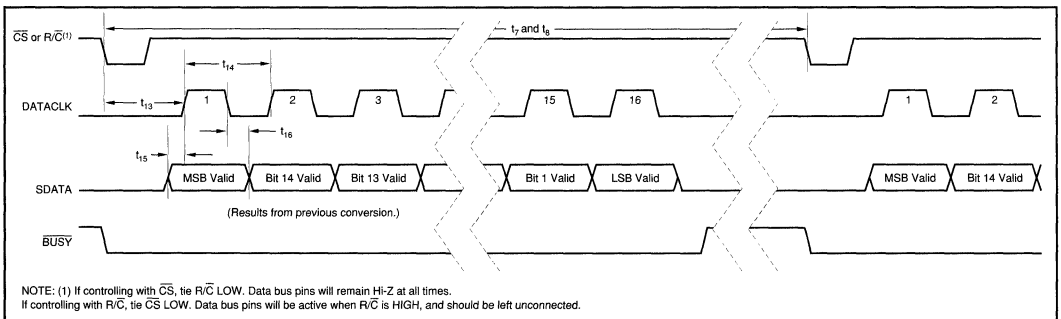

FIGURE 4. Serial Data Timing Using Internal Data Clock (TAG tied LOW).
NOTE: (1) See Figures 4, 5, and 6 for constraints on data valid from conversion "n-1".
To use the internal data clock, tie $\text{EXT}/\overline{\text{INT}}$ (pin 8) LOW. The combination of R/\overline{C} (pin 22) and \overline{CS} (pin 23) LOW will initiate conversion 'n' and activate the internal data clock (typically 900kHz clock rate). The ADS7807 will output 16 bits of valid data, MSB first, from conversion 'n-1' on SDATA (pin 19), synchronized to 16 clock pulses output on DATACLK (pin 18). The data will be valid on both the rising and falling edges of the internal data clock. The rising edge of BUSY (pin 24) can be used to latch the data. After the 16th clock pulse, DATACLK will remain LOW until the next conversion is initiated, while SDATA will go to whatever logic level was input on TAG (pin 20) during the first clock pulse. Refer to Table VI and Figure 4.